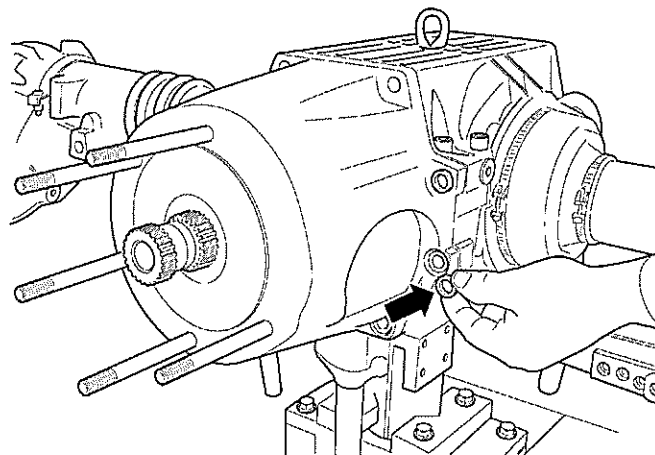

Fig 20 Fixing distance shims with grease
11.18 Fix distance shims with grease to enable brake power control bracket to be mounted directly (see Fig 20).